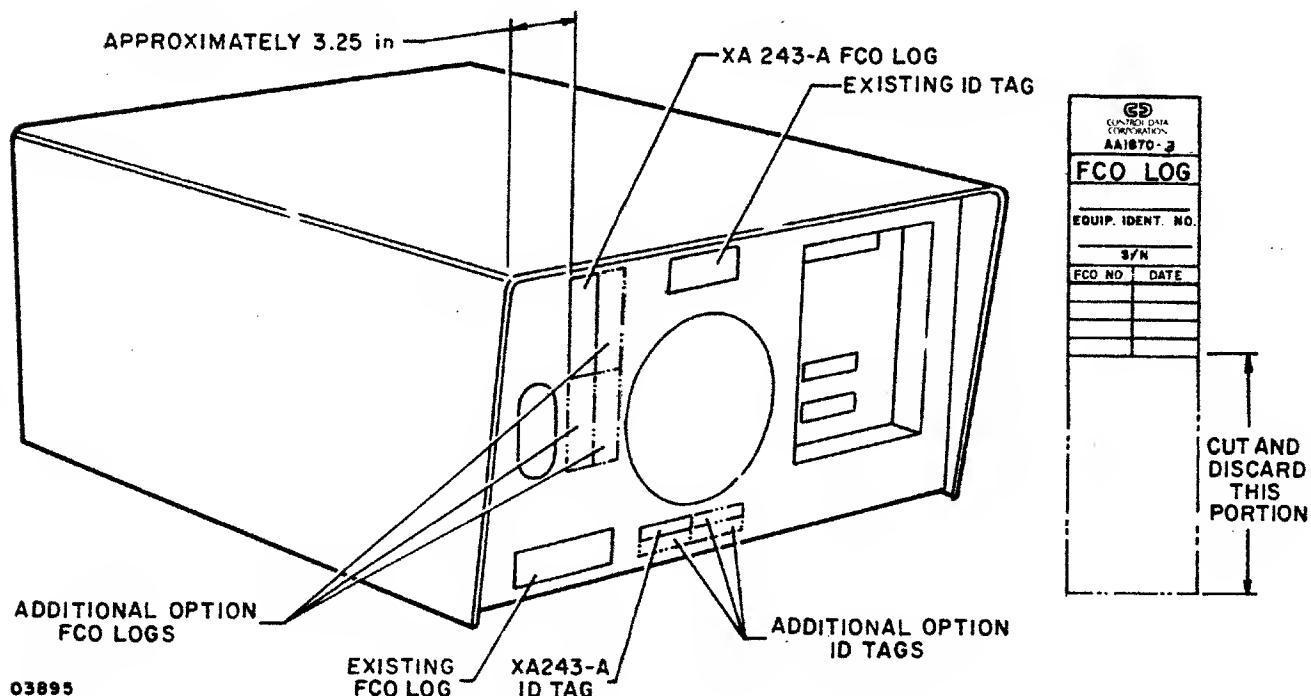

Figure 3-4. RAM Option FCO Log and ID Tag Placement
Cover unused voltage designation on ID plate (figure 3-4) with black tape.
5. Affix FCO log and equipment identification tag to rear of unit as shown in figure 3-4.